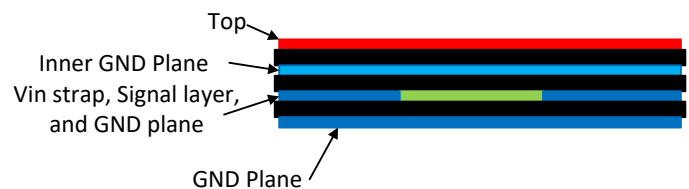

图 22. Example Layout for WQFN Package
1. **Place the input capacitor or capacitors as close as possible to the VIN and GND terminals.** VIN and GND pins are adjacent, simplifying the input capacitor placement. With the WQFN package there are two VIN/PGND pairs on either side of the package. This provides for a symmetrical layout and helps minimize switching noise and EMI generation. A wide VIN plane must be used on a lower layer to connect both of the VIN pairs together to the input supply; see Figure 22.